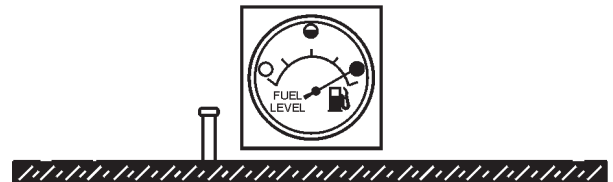

Figure 36. Full Fuel Tank
3. **NEVER overfill fuel tank** – It is important to read the fuel gauge when filling trailer fuel tank. **DO NOT** wait for fuel to rise in filler neck (See Figure 36).